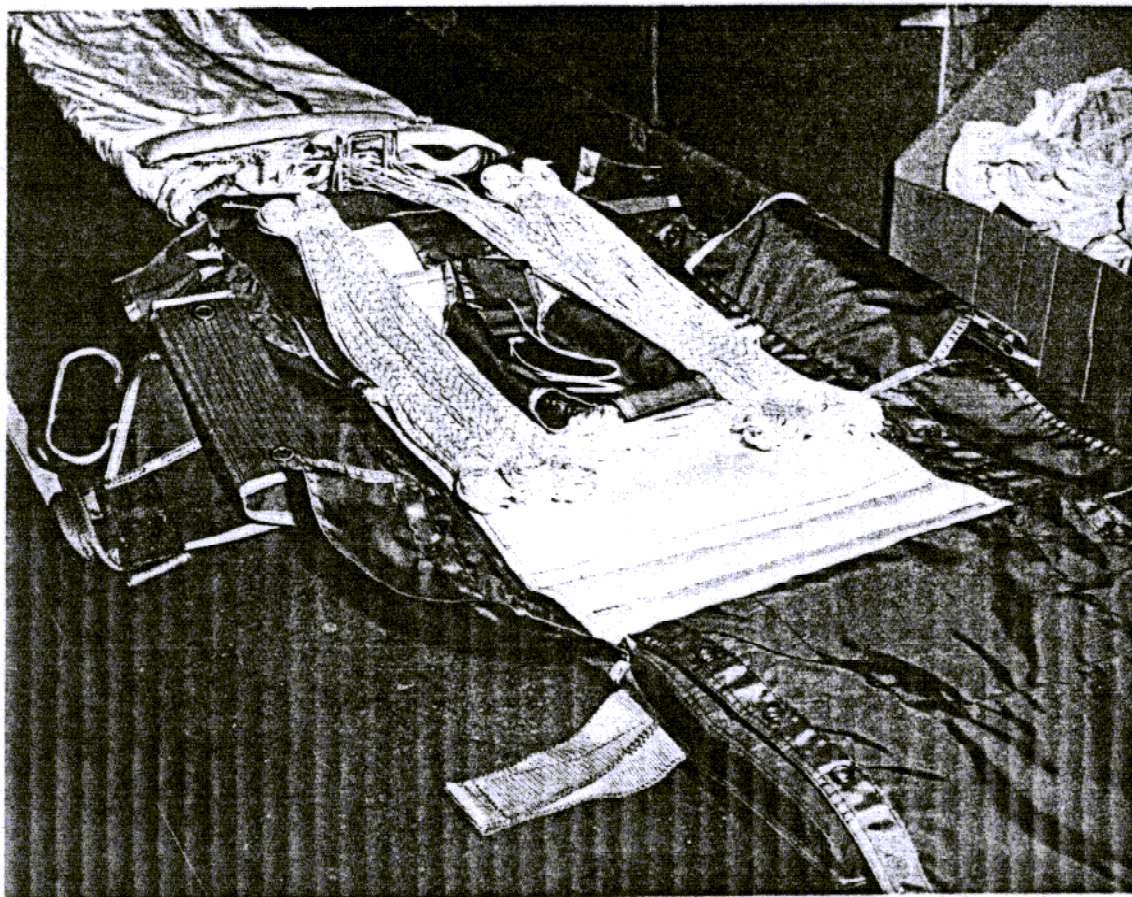

FIGURE 2
- 6.2.3.1 The risers are placed in the Pack with the connector links placed side by side, 2 on each side of Pilot Chute compartment. The suspension lines will be stowed in the numerical order stamped in the pack adjacent to the appropriate stowing elastic (see FIG. 2).